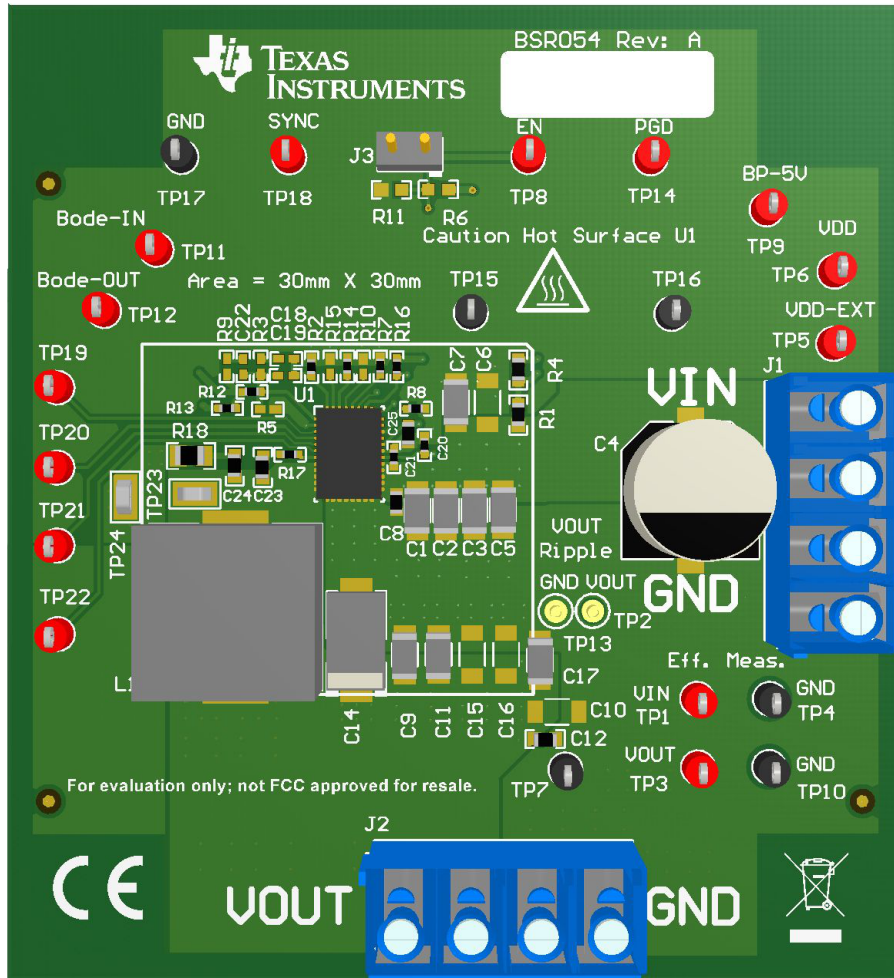

Figure 2. BSR054EVM Overview
Multimeters: It is recommended to use two separate multimeters Figure 2. One meter is used to measure V_{IN} and one to measure V_{OUT} .
Output Load: A variable electronic load is recommended for testing Figure 2. It must be capable of 40 A at voltages as low as 0.6 V.
1. Connect VOUT to J2 and VOUT_GND to J2 Figure 2.
4. Connect VIN to J1 and VIN_GND to J1 Figure 2.